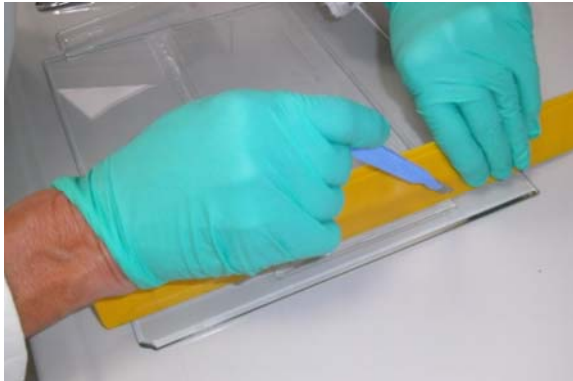

Fig. 12
- Remove adherent edge of the gel (Fig 12).